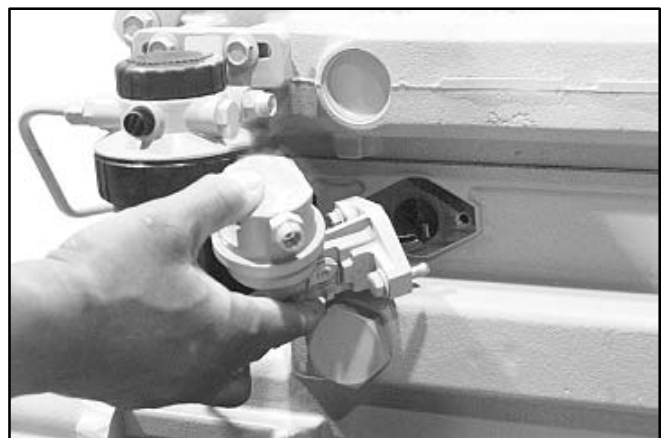

FIGURE 7-8. MECHANICAL FUEL PUMP
2. Remove the two cap screws and withdraw the pump (Figure 7-8). Cover the opening in the block to keep out debris.